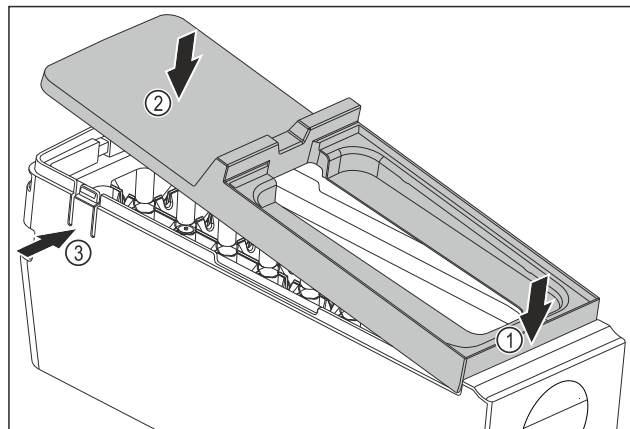

Fig. 139
- Installing the EasyTwist-Ice body cover: Place the cover on the front. Fig. 139 (1)
- Lower the cover at the rear. Fig. 139 (2)
- ▷ The cover locks into both tabs Fig. 139 (3) audibly.